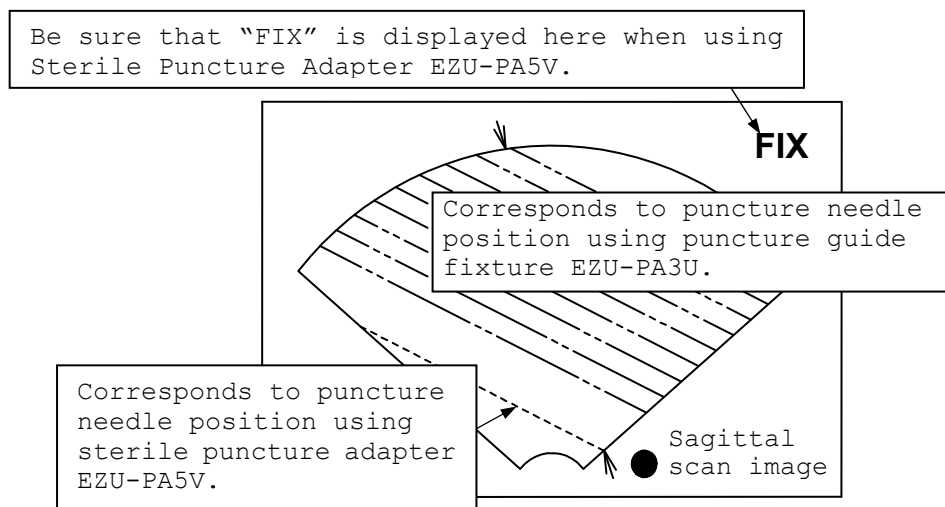

Fig. 6 Position of Puncture Needle Guide Line
- 1) When using the sterile puncture adapter EZU-PA5V, make it sure that the mark "FIX" shows up on the upper right corner of the screen in place of the above two digits. (See Fig.6)
- 2) When using the puncture guide fixture EZU-PA3U, the positional information on the puncture fitting will be shown in two digits on the upper right corner of the screen showing the sagittal image. (See Fig.6)